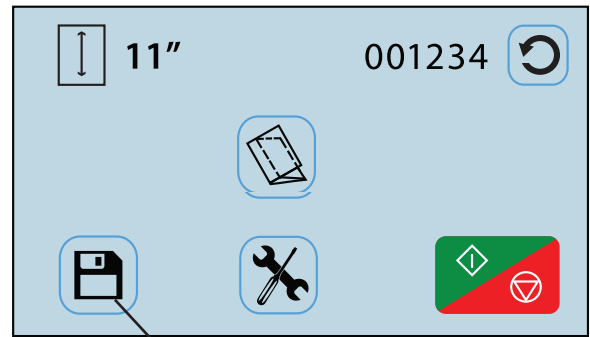

Fig. 17
1. To recall, edit, or delete a saved custom fold from the home screen press the saved job icon  (Fig. 17).